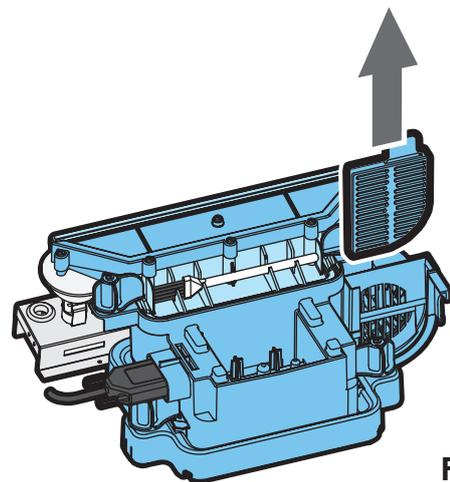

Fig.17
4. Gently slide upwards the air filter plastic holder. (See Fig.17)